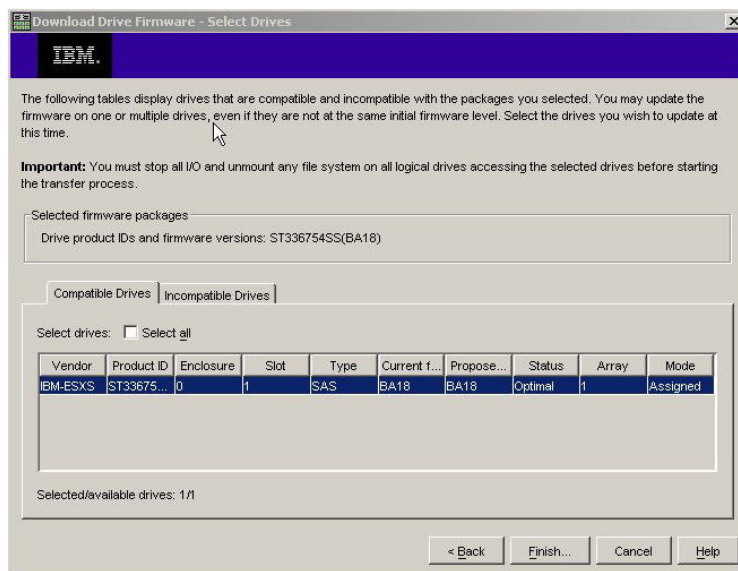

Figure 24. Select Drive window
8. In the Select Drive window (shown in Figure 24), click the **Compatible Drives** tab. The Compatible Drives page contains a list of the drives that are compatible with the firmware package types that you selected. Press and hold the Ctrl key while you use the mouse to select multiple drives individually, or press and hold the Shift key while you use the mouse to select multiple drives that are listed in series. The compatible firmware that you selected in steps 4 on page 97 and 5 on page 97 are downloaded to the drives that you select.